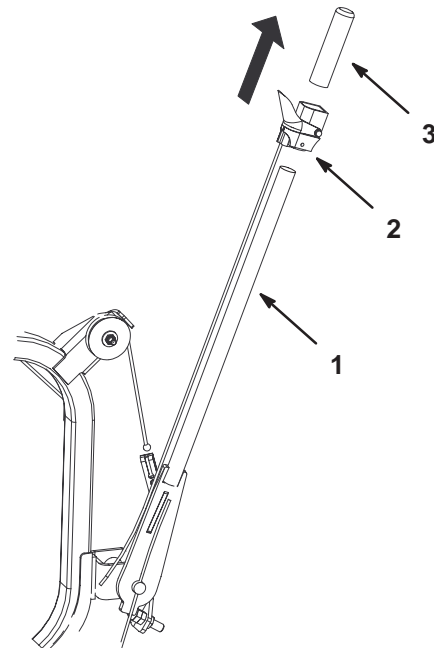

Figure 3
6. Remove the grip from the bagger arm (Fig. 3).
9. Remove the latch lever off of the bagger arm and discard the the bagger arm (Fig. 3).